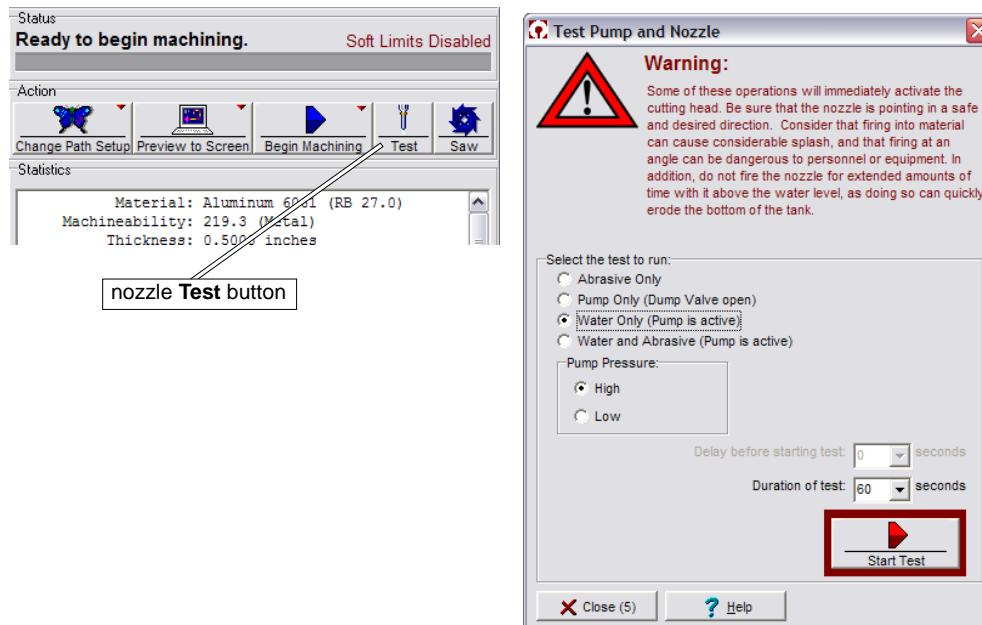

Figure 4-7: Click the **Test** button to open the **Test Pump and Nozzle** dialog box
12. Again, click the **Test** button (Figure 4-7) and this time select **Pump Only (Dump Valve open)** and either **Low** or **High** depending on your previous selection (step 8).